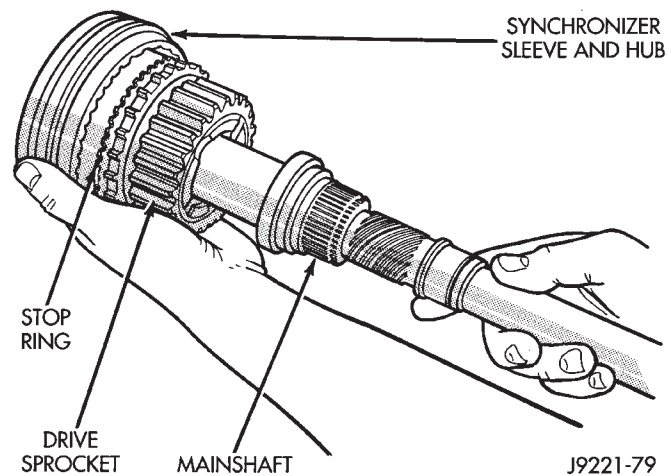

Fig. 14 Removing Synchro Sleeve, Hub And Struts
(25) Remove synchro sleeve, hub and struts (Fig. 14).